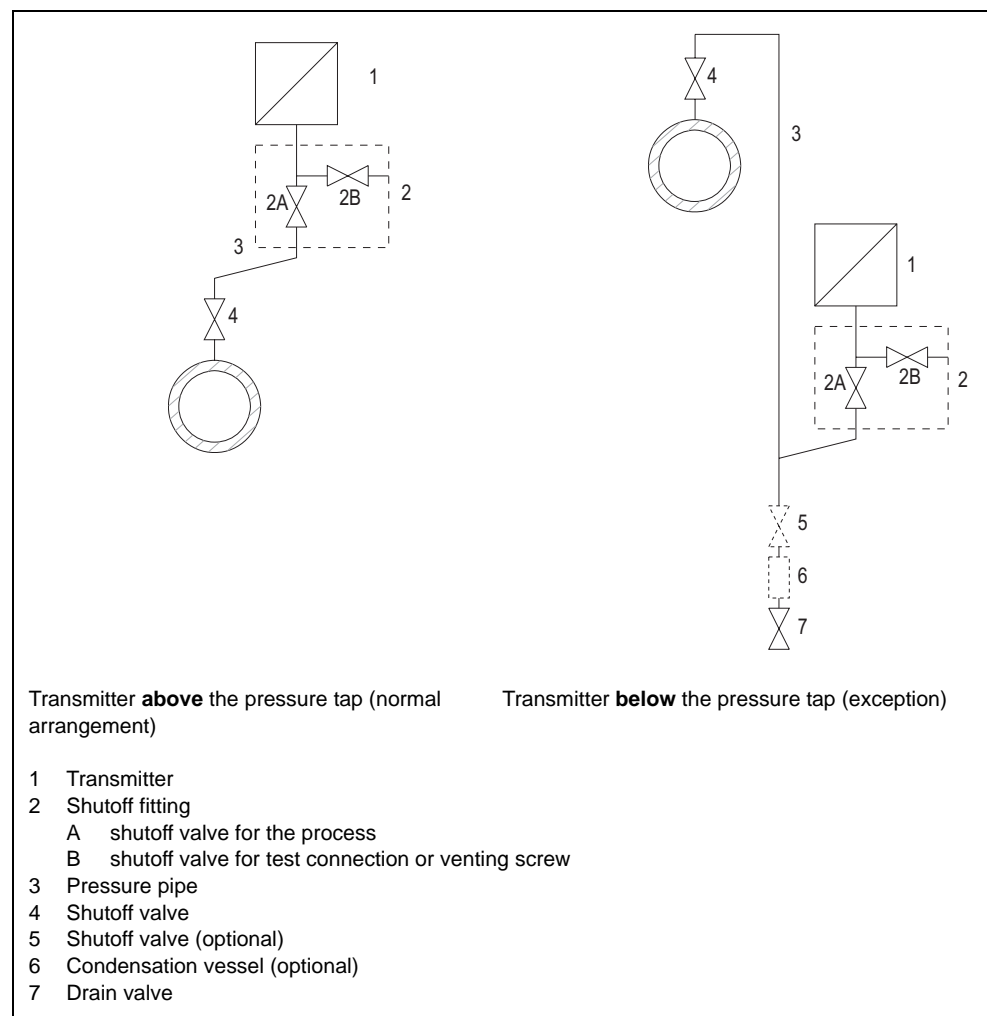

Figure 32 Measuring gases
Incorrect or improper operation of the shutoff fittings (Figure 32, page 139) may result in serious injury or considerable material damage.
1. Open the shutoff valve. See (2B) Figure 32.
2. Apply pressure corresponding to the start of scale through the test connection of the shutoff fitting (2) to the transmitter.
5. Open the shutoff valve (4) on the pressure tap.